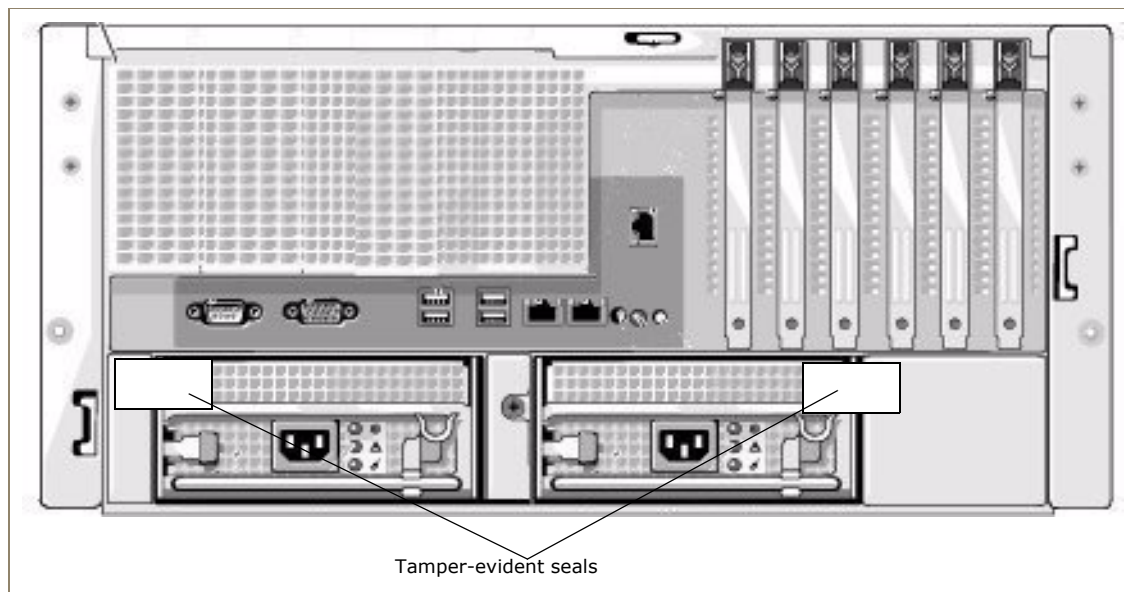

Figure 2-15 Back panel of model 4150E showing seals on power supplies
- 3 Attach tamper-evident seals to the back panel: Attach a seal to connect each power supply to the chassis (see Figure 2-15)